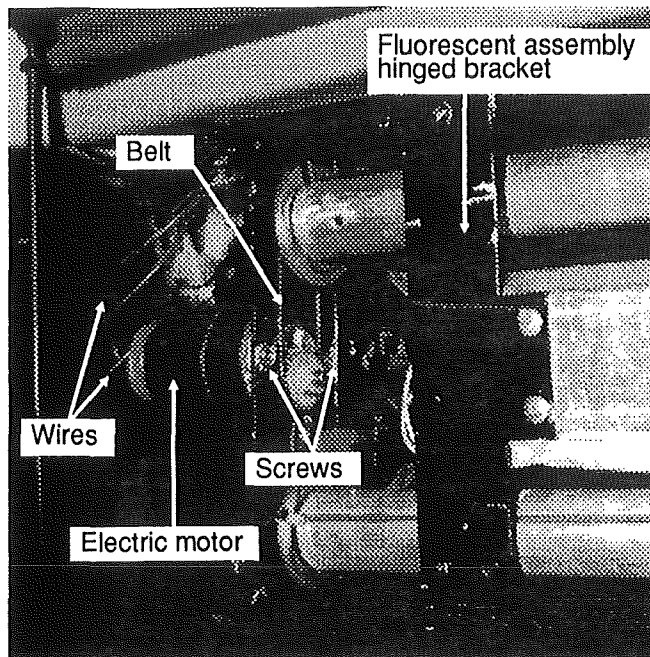

FIG. 15 - Electric motor
1. Remove the six (6) Phillips screws and washers retaining the destination sign cover, then carefully remove the cover from its location.
2. Remove both Phillips screws, one on each fluorescent assembly hinged bracket (see fig. 15), then lower assembly.
2. Remove both screws retaining motor to destination sign frame (see fig. 15).